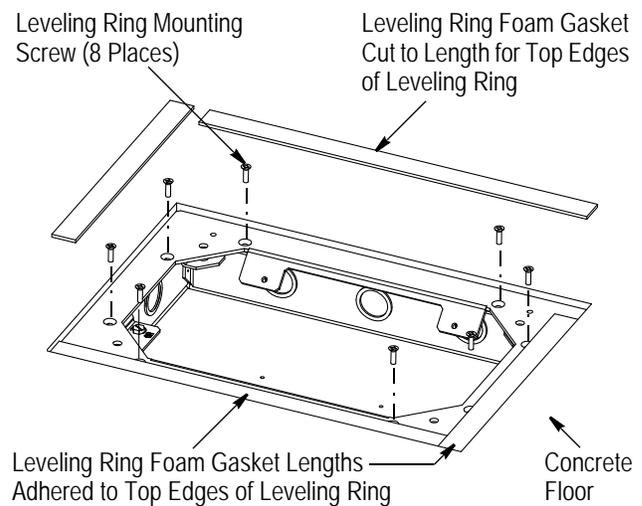

Figure 7
5. Secure the leveling ring to the base using the eight leveling ring mounting (10-32x½-in. flat head) screws. See Figure 7.
6. Cut the leveling ring (25.4 by 609-mm [1.0 by 24-in.]) foam gasket to length as required that will ensure complete and continuous coverage over the top edges of the leveling ring. Remove the adhesive backing and adhere the foam gasket to the top edges of the leveling ring. See Figure 7. **DO NOT** discard the remaining of foam gasket at this time.